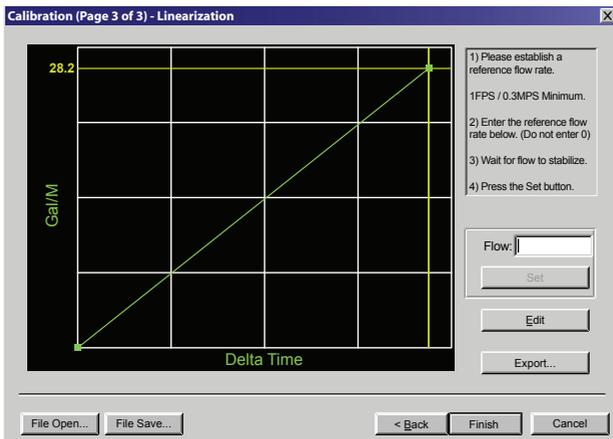

Fig. 14 Calibration (page 3 of 3)
- 3) On the pop-up screen, click Next button twice to get to Page 3 of 3. See Fig. 14.
- 9) Process will return to Page 3 of 3. Click Finish. See Fig. 14 on page 26.